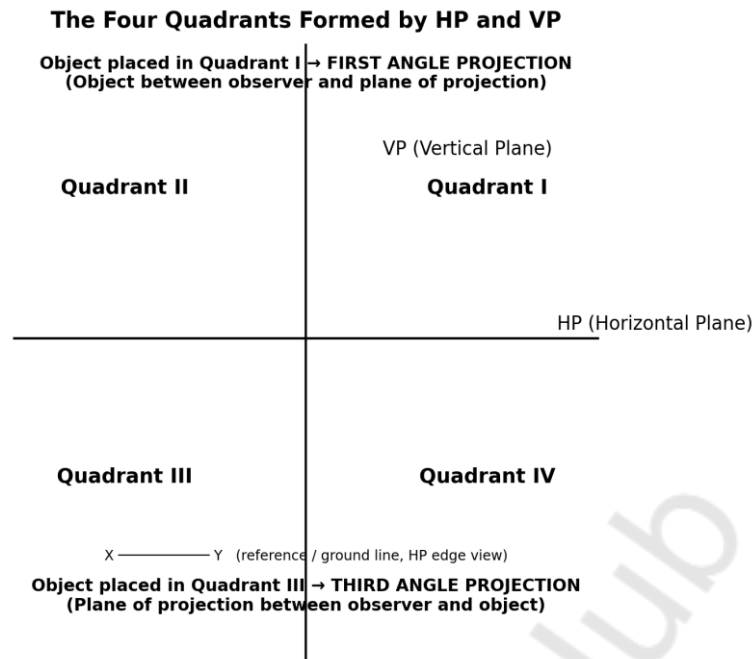

Figure 1: The four quadrants formed by HP and VP, and the corresponding positions for First Angle and Third Angle projection
The Horizontal Plane (HP) and Vertical Plane (VP), when extended in both directions, divide the surrounding space into four quadrants, numbered I, II, III, and IV, as shown in Figure 1. Depending on which quadrant the object is imagined to be placed in during the construction of its orthographic views, two main projection systems are used in engineering drawing practice: first angle projection and third angle projection.